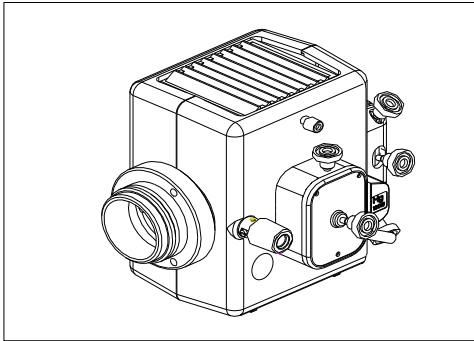
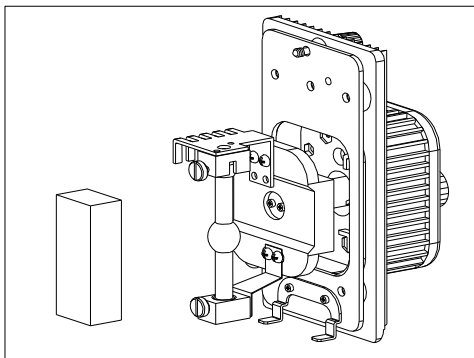

Fig 1
Fig 2
(fig.1, fig.2)
1. Loosen the burner socket clamping screw ① (fig.1), and remove the burner socket (fig.2).
2. After removing the foam backstop②, securely insert the + pole (the wide head) of the specified mercury burner③ to the lower terminal first and then the – pole(the thin head) to the upper terminal, then tighten the two socket clamping screws④.
3. Close the burner socket with burner into the original position and tighten the socket clamping screw①.